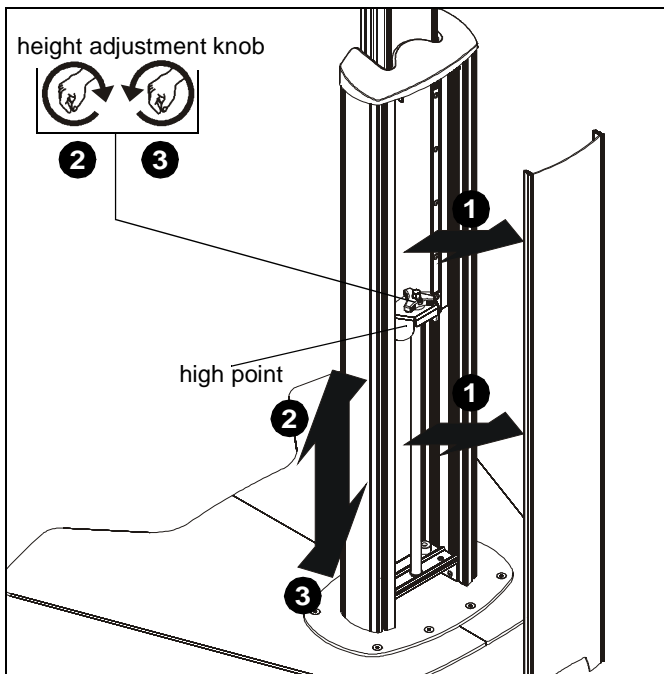

Figure 13
1. Remove cable cover (G) to expose height adjustment knob.
2. Turn height adjustment knob clockwise to raise display. (See Figure 13)
3. Turn height adjustment knob counterclockwise to lower display. (See Figure 13)
**WARNING:** Do not attempt to raise or lower the adjustment carriage beyond its upper or lower limit. High and low points are shown in Figures 13 and 14.
4. Reinstall cable cover (G) to column assembly.